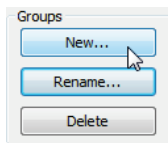

Figure 3—Create or edit Parameter Groups
4. Give the Group a name and click OK (see Figure 3).